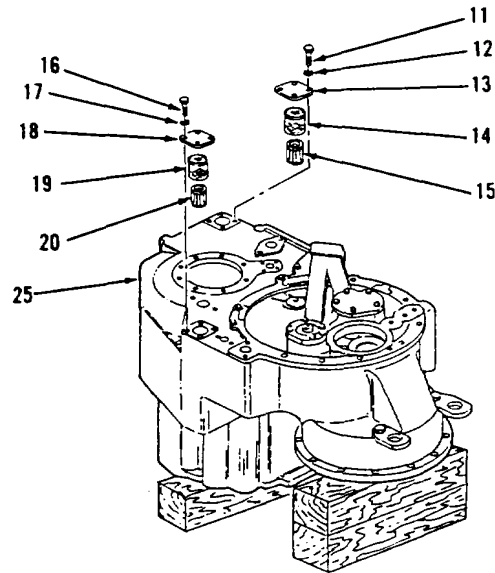
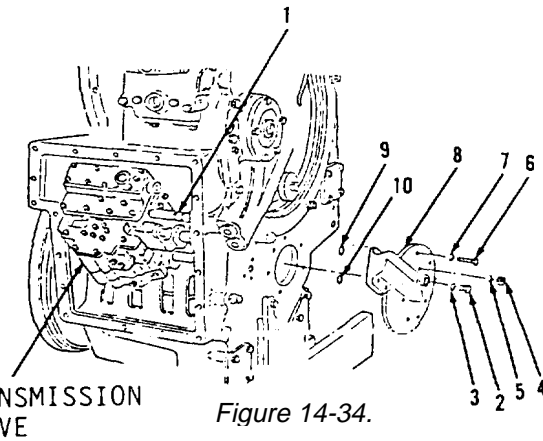

Figure 14-35.
Figure 14-34.
10. Install magnetic assembly (20), filter screen (19), cover plate (18), four washers (17) and bolts (16) in planetary housing (25, Figure 14-35).
11. Install magnetic assembly (15), filter screen (14), cover plate (13), four washers (12) and bolts (11).
12. Install three new preformed packings (10) and new preformed packing (9, Figure 14-34) to lower section of transmission.
13. Install support cover (8), lockwashers (7) and bolts (6).
14. Install six lockwashers (5) and nuts (4).
15. Install new preformed packing (3) and plug (2).
16. Install four sleeves (1) by sliding into transmission valve.